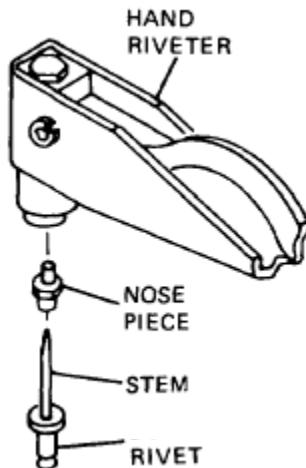

Figure 4-52. Hand riveter with nose piece.
2. Select appropriate nose piece for hand riveter (WP 0058, SATS Base Tool Component List) and install nose piece (Fig.4-52).